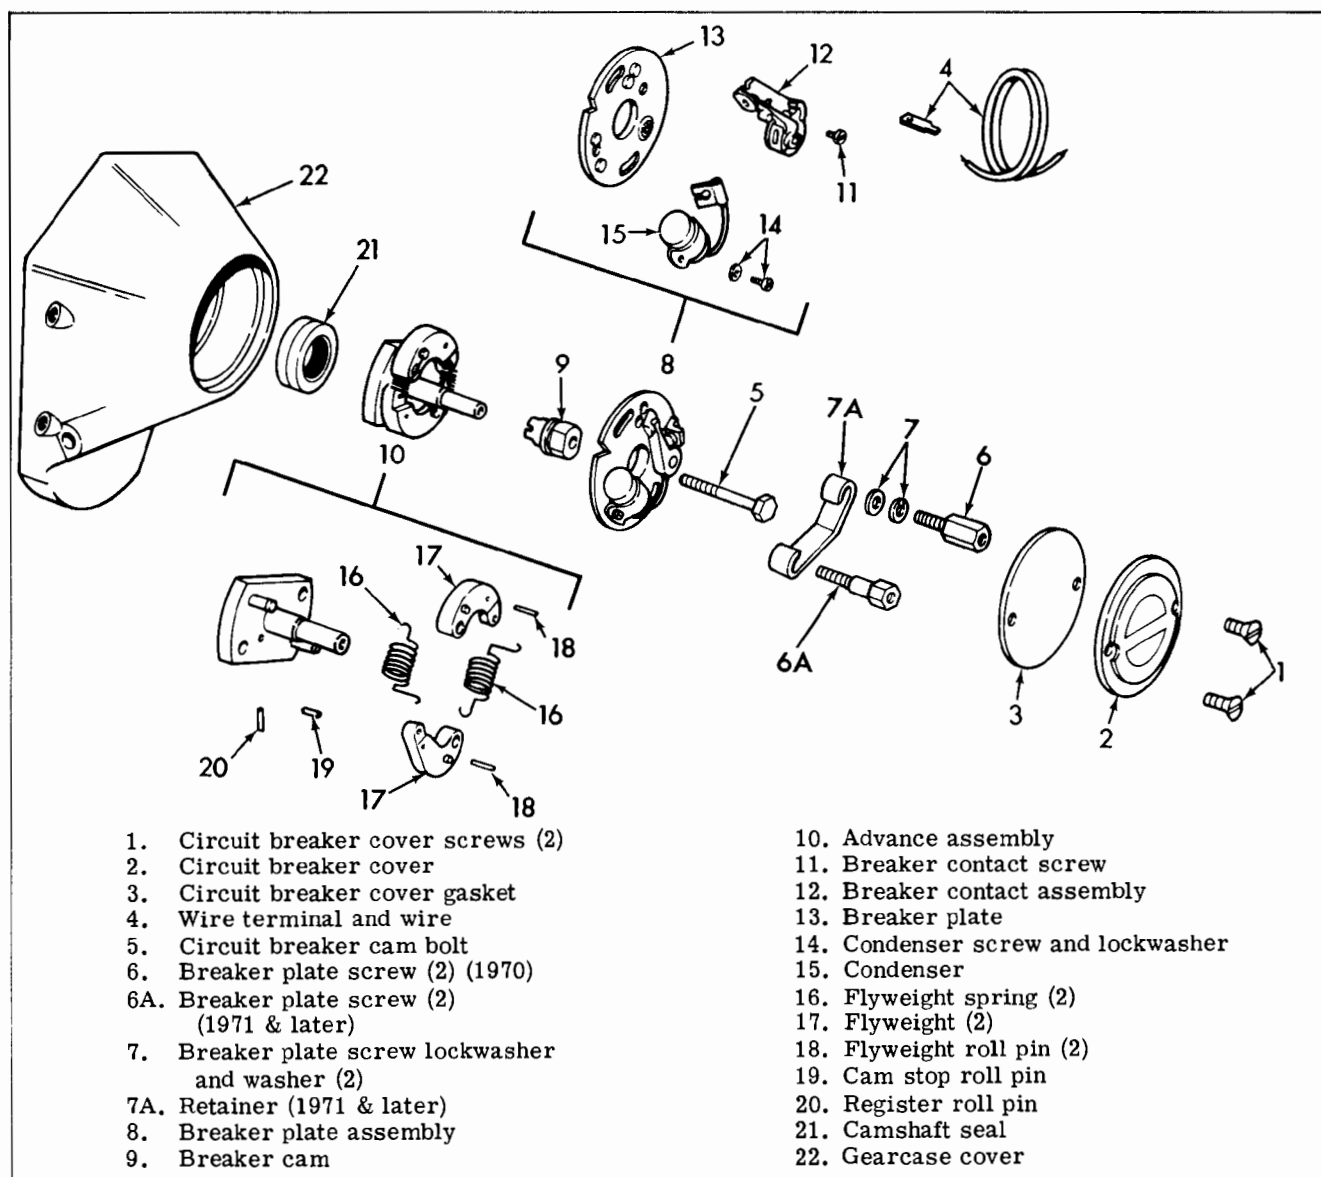

Figure 5-17. Circuit Breaker - Exploded View
REMOVING CIRCUIT BREAKER PARTS (Figure 5-17)
INSPECTING AND REPLACING PARTS (Figure 5-17)
Examine the coil to circuit breaker low tension wire (4, Figure 5-17) for brittle or cracked insulation and broken strands and replace if defective.
IMPORTANT: Circuit breaker point gap should be within .016 to .020 in. limits on both cam lobes. If not within this range, the cam (9, figure 5-17) or advance assembly (10, figure 5-17) may be assembled incorrectly on camshaft, or parts may be damaged, causing eccentric operation. Generally, loosening bolt (5) and repositioning advance assembly (10) toward widest point gap will equalize gap satisfactorily.